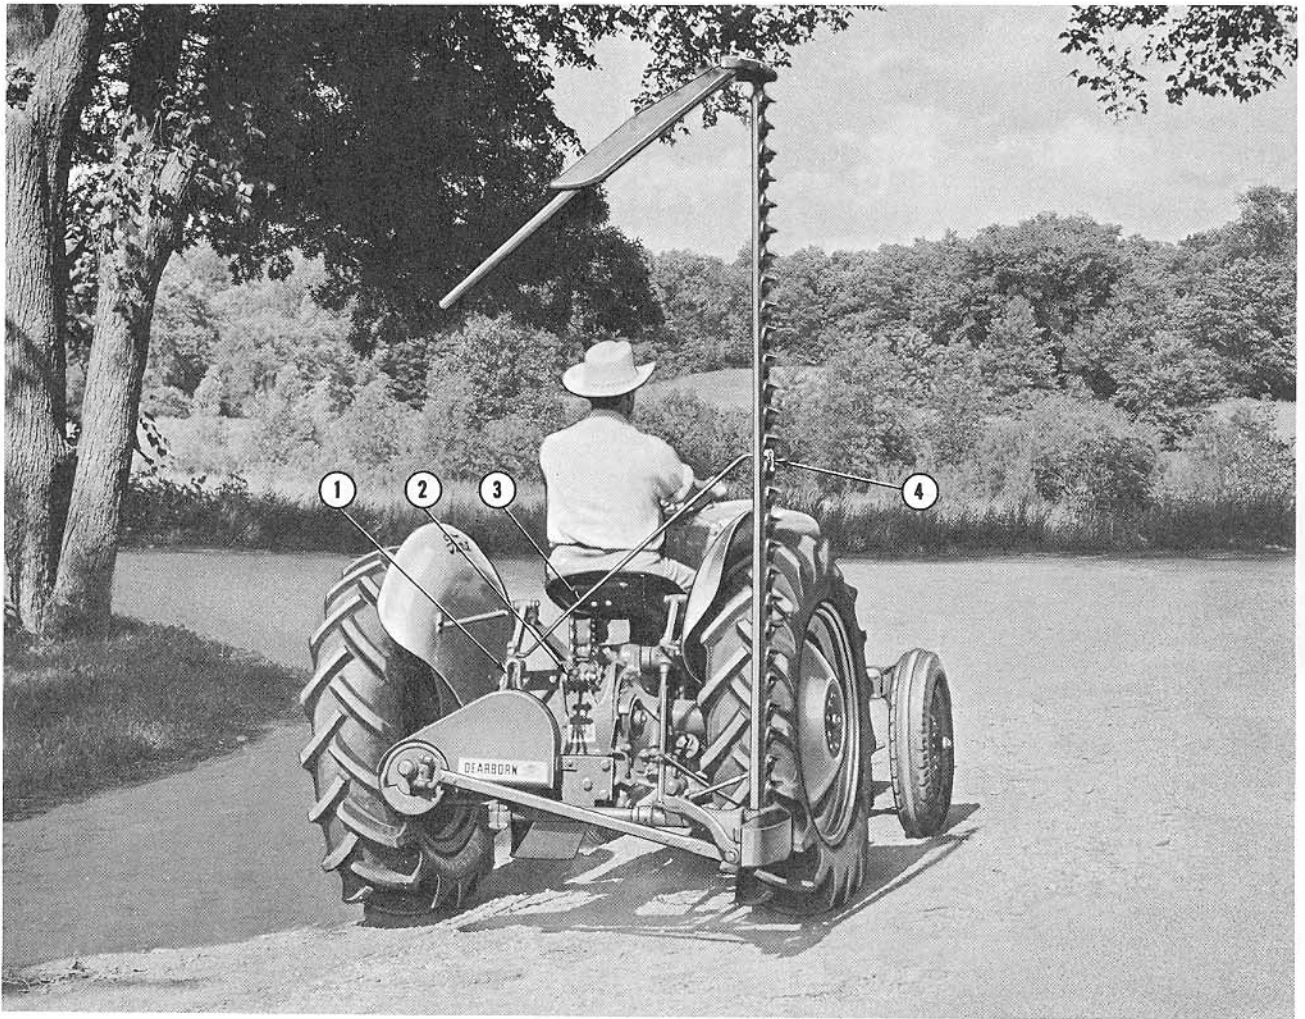

Figure 21
To fix the mower in the transport position, raise the cutter bar with the Ford Tractor Hydraulic Touch Control Lever and lock the anchor straps to the top link with the lock (2), Figure 21. Disengage the power take-off and raise the cutter bar by hand to the vertical position shown.
With the hook end of the transport rod (3), Figure 21, hooked in the hole (1) on the mower A-frame, insert the threaded end of the rod through the hole in the cutter bar and secure by screwing the handle (4) on the transport rod against the cutter bar as shown in Figure 21.